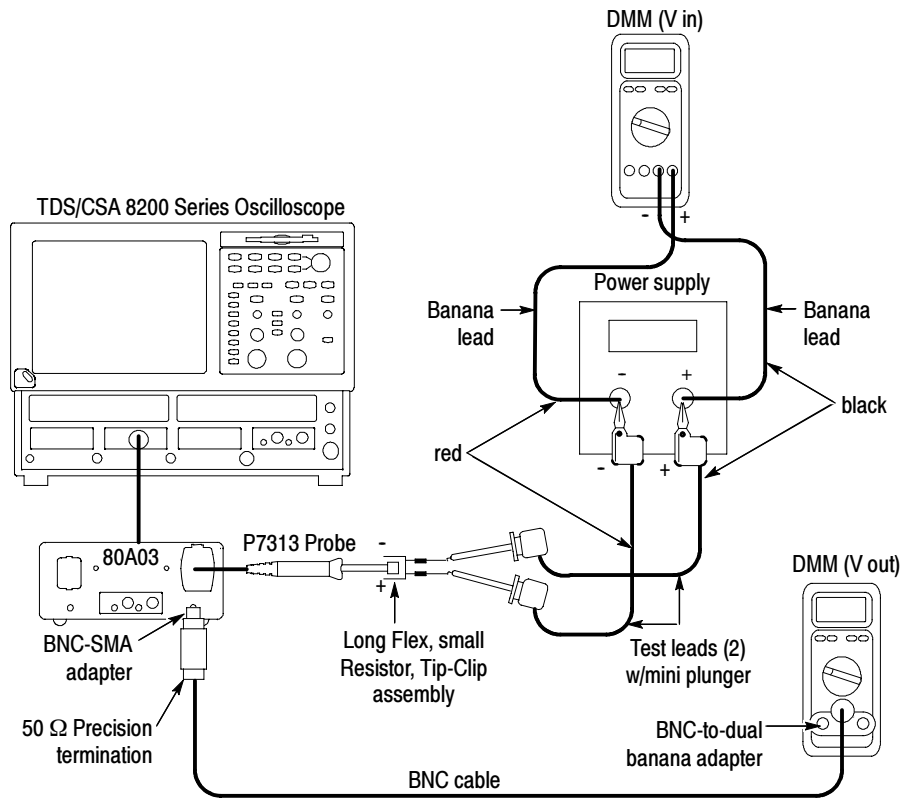

Figure 15: Reverse the power supply polarity on the probe inputs
6. Reverse the polarity of the voltage applied to the probe inputs by swapping both sets of banana leads at the power supplies, as shown in Figure 15.